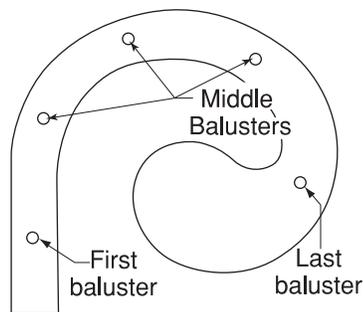

Fig. 5-14 Custom layout
7. Using this spacing distance, start with the layout mark of the back baluster and mark intersecting lines on the centerline on the bottom of the volute for all of the desired balusters. Please note Fig. 5-14 here.